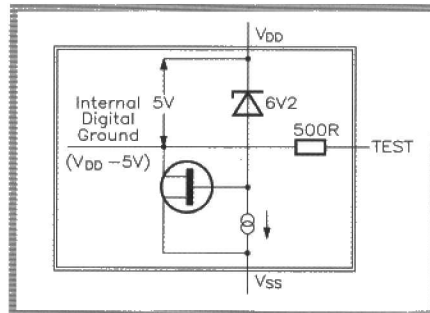

Figure 14. Internal digital ground biasing circuit of the A-to-D converter chip.
**Test & BP.** The negative or ground rail of the A-to-D converter chip's digital circuitry is internally biased at about 5V below  $V_{DD}$  by the internal circuit shown in Figure 14, and is coupled to the TEST terminal via a 500Ω resistor. This terminal can be used as the negative rail of external digital circuitry that is powered from  $V_{DD}$ , provided that the TEST currents do not exceed 1mA. If TEST is shorted directly to  $V_{DD}$  the LCD should read '-1888' (in some models the B and G segments of the left-hand '8' are blanked in this TEST mode). Under this condition 10mA flows into the TEST pin and a DC voltage is applied to the LCD; this voltage may damage the display if sustained for several minutes.